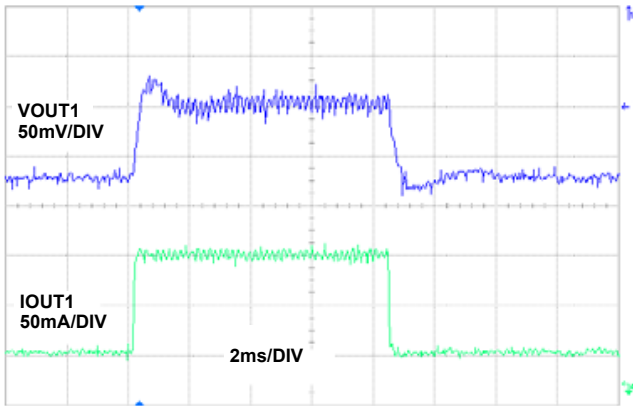
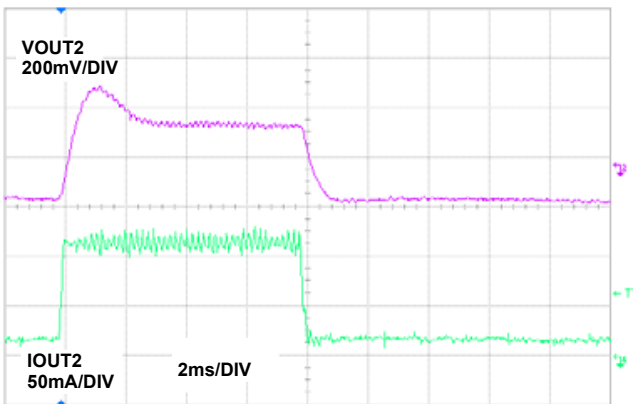

FIGURE 3. VOUT1 TRANSIENT RESPONSE
FIGURE 4. VOUT2 TRANSIENT RESPONSE
**Transient Response** - Figure 3 and Figure 4 show the transient performance of the each output for a step load from 0mA to 100mA.